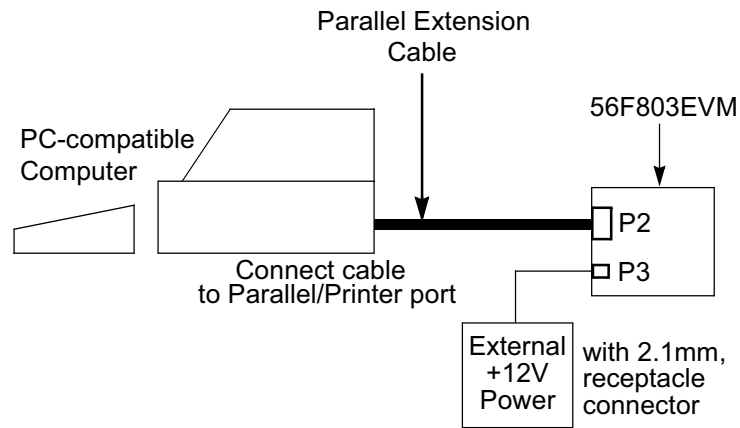

Figure 1-3. Connecting the 56F803EVM Cables
An interconnection diagram is shown in **Figure 1-3** for connecting the PC and the external +12V DC power supply to the 56F803EVM board.
2. Connect the other end of the parallel extension cable to P2, shown in **Figure 1-3**, on the 56F803EVM board. This provides the connection which allows the host computer to control the board.
4. Connect the 2.1mm output power plug from the external power supply into P3, shown in **Figure 1-3**, on the 56F803EVM board.